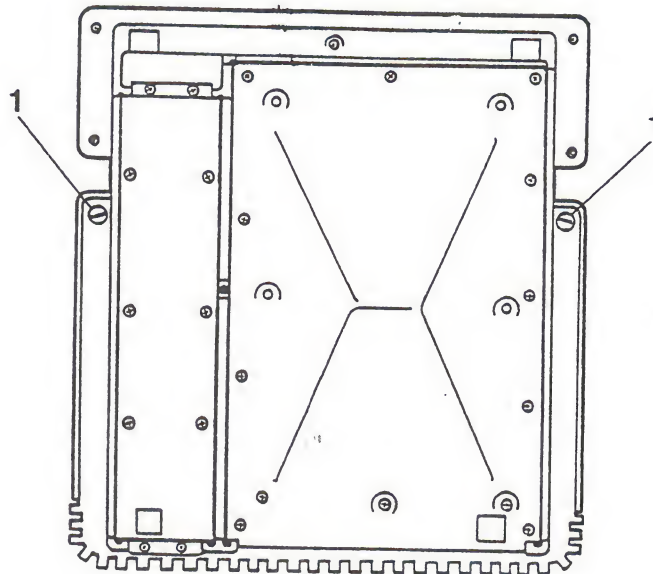

FIGURE 2
4. Use a flat blade screwdriver to turn the locking screws, one on each side of the Apple III, 1/4 turn counterclockwise. (See Figure 2, Item 1).